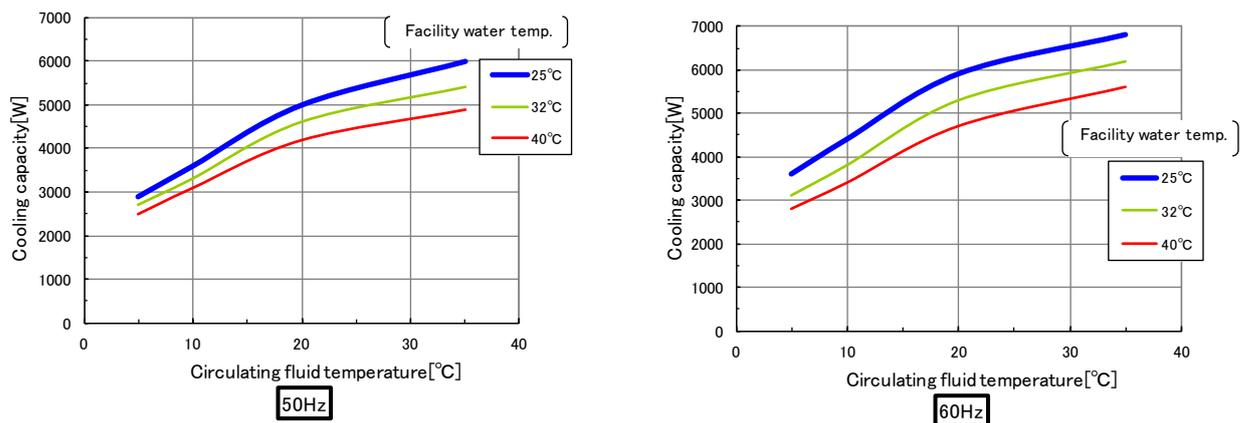

Fig 9-8 Cooling capacity (HRR050-W*-20-*)
*The amount of the facility water for the option with rated circulating fluid, cooling capacity which is described in fig.9-8.